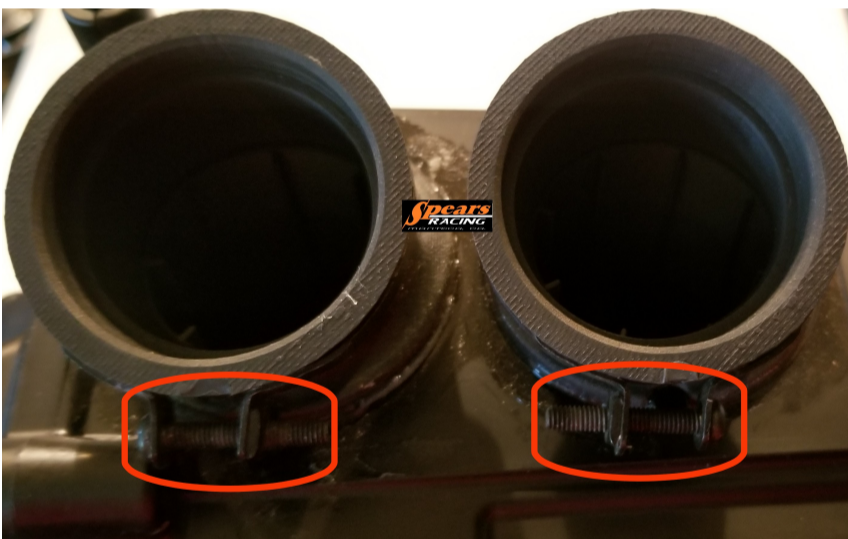

Figure 3: New manifold have no alignment tabs for the stock clamp, Install as you will
Step 6: Re-install the stock manifold clamps, alignment is based on your install of ease (see Figure 3 above).